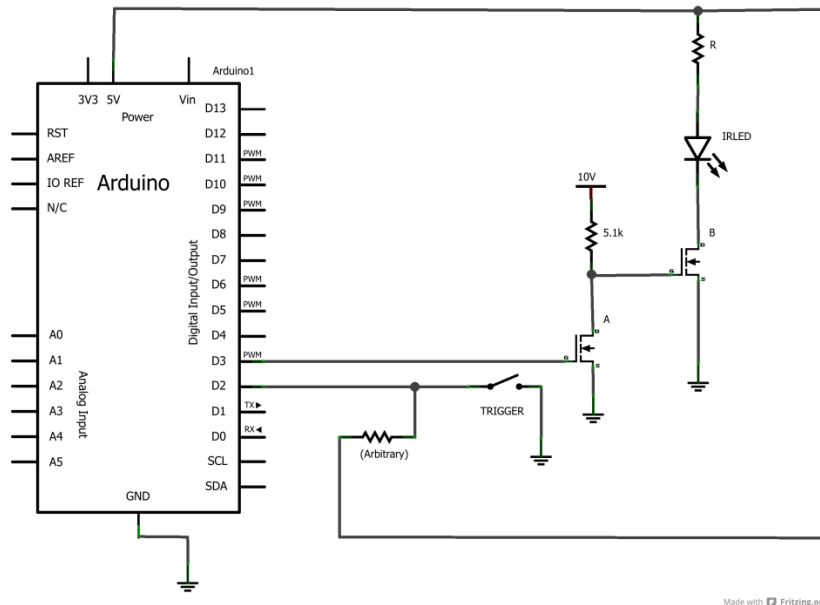

Figure 4 – Two-stage MOSFET driver circuit.
6. Now consider the circuit in Figure 4. Both MOSFET A and B are STQ1NK80ZR MOSFETs. Assuming ideal switch model for MOSFET A, what is  $V_{GS}$  of MOSFET B when the gate of MOSFET A is driven by a 5V pulse from the Arduino? What is  $V_{GS}$  of MOSFET B when the gate of MOSFET A is 0V? Use your estimated value of ON voltage for the IR LED and the STQ1NK80ZR MOSFET datasheet to solve for the current through MOSFET B when its  $V_{GS}$  is 10V and  $R = 0\ \Omega$ .
7. Breadboard the circuit in Figure 4 using a value of  $R$  such that the total series resistance (including  $R_{on}$  of the MOSFET) is the value you calculated in the pre-lab (question 4(e)). To ensure the TV jammer is safe and fully functional, measure the current going through the IR LED by putting the ammeter in series with the LED. If the current you measure is  $>200\text{ mA}$ , immediately turn off your power supply and choose a value for  $R$  until you are under  $200\text{ mA}$ , or you risk burning out the IR LED. If the current measured is less than  $180\text{ mA}$ , decrease the value of  $R$  to increase the range of your TV jammer. **With this resistor value, measure the current through the IR LED and estimate the actual  $R_{on}$  value of your MOSFET.**